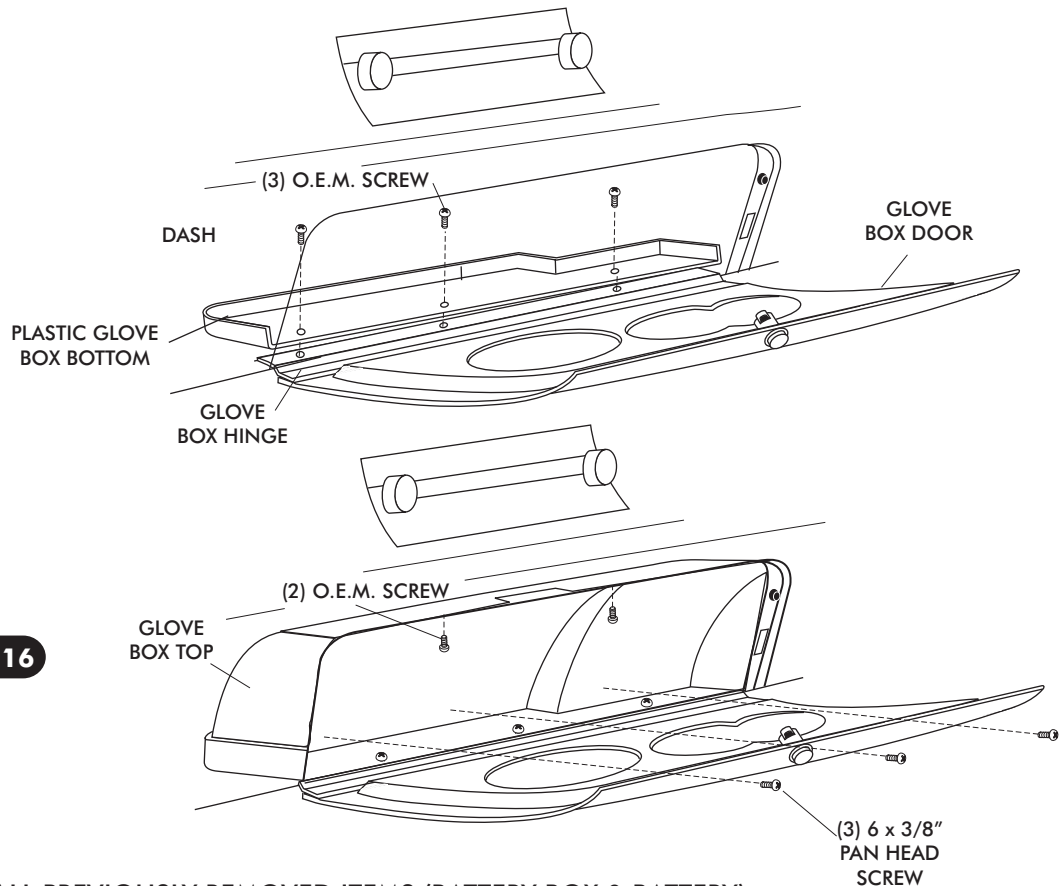

FIGURE 16
- INSTALL GLOVE BOX BOTTOM AND GLOVE BOX DOOR, SECURE TO DASH WITH (3) O.E.M. SCREWS. SEE FIGURE 16, BELOW.
- WITH GLOVE BOX BOTTOM AND DOOR IN PLACE, INSTALL GLOVE BOX TOP AS SHOWN, SECURE THE GLOVE BOX TOP AND BOTTOM TOGETHER USING (3) 6 x 3/8" PAN HEAD SCREWS AS SHOWN.
- SECURE THE GLOVE BOX TOP TO DASH USING (2) OEM SCREWS, SEE FIGURE 16 BELOW.